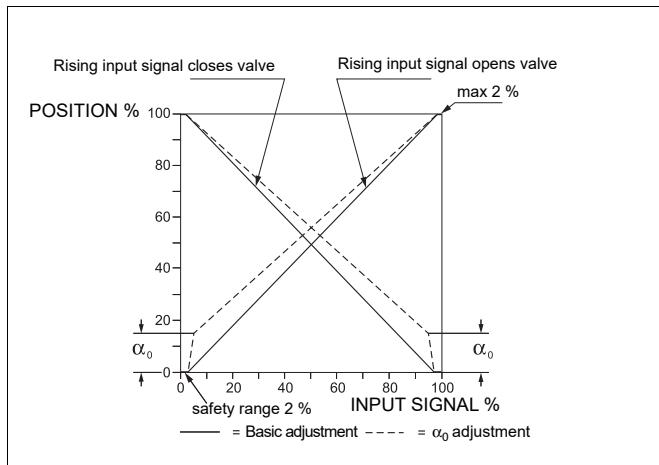

Fig. 8 Basic and α_0 adjustments
1. Switch on the supply pressure (S) and the input signal (IN).
2. Set the input signal at the closed limit of the valve so that it is 2 % i.e. 0.02 bar (0.2 psi) higher or lower than the limit value, e.g. $0.2 + 0.02 = 0.22$ bar ($3 + 0.2 = 3.2$ psi) or $1.0 - 0.02 = 0.98$ bar ($15 - 0.2 = 14.8$ psi). Loosen the screw (56). Turn the zero adjustment screw (67) so that the actuator comes slowly to the closed limit. Tighten the screw (56) always after the zero adjustment. The valve should open slightly with a 4 % change in signal, that is 0.03 bar (0.5 psi), e.g. $0.2 + 0.03 = 0.23$ bar ($3 + 0.5 = 3.5$ psi) or $1.0 - 0.03 = 0.97$ bar ($15 - 0.5 = 14.5$ psi). See Figures 8 and 9.